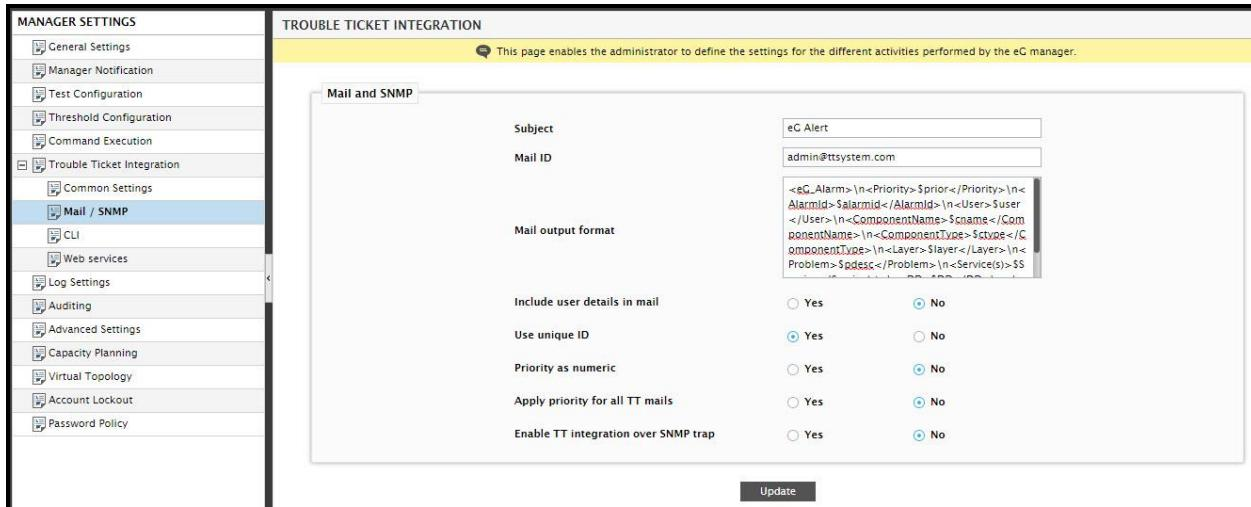

Figure 2.1: Configuring eG integration with a TT system via an email interface
3. Figure 2.1 will then appear. From the **MANAGER SETTINGS** tree in the left panel of Figure 2.1, expand the **Trouble Ticket Integration** node. Then, select the **Mail / SNMP** sub-node. A **Mail and SNMP** section will open in the right panel, as depicted by Figure 2.1.
9. If need be, you can make sure that the TT mails indicate the alarm priority using numbers instead of priority names such as *critical*, *major*, *minor*, or *normal*. For this purpose, you will have to set the **Priority as numeric** flag in the Figure 2.1 to **Yes**. By default, this flag is set to **No**, indicating that the priority of an alarm is indicated using the priority name by default. If this flag is set to **Yes** instead, then the default priority name-number mappings defined in the **[TMAIL]** section of the **eg\_services.ini** file (in the `<EG_INSTALL_DIR>\manager\config` folder) will automatically apply. These default mappings are as follows: